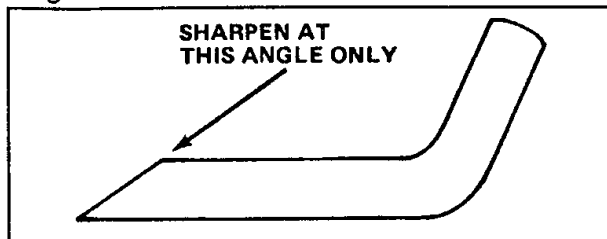

Figure 23
6. SHARPENING BLADE—Using a file, sharpen top side of blade (side facing mower housing) and maintain original cutting angle (Fig. 23). The blade will remain balanced if the same amount of material is removed from both cutting edges.